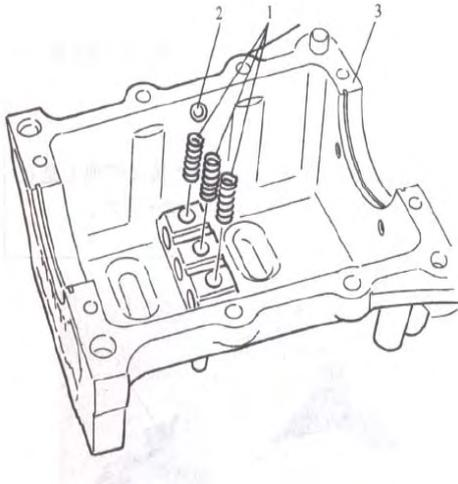

Fig 10-80
(1) install 3 locating spring into 3 holes in upper case. Fit locating ball on top of locating spring in hole. (FIG.10-80)